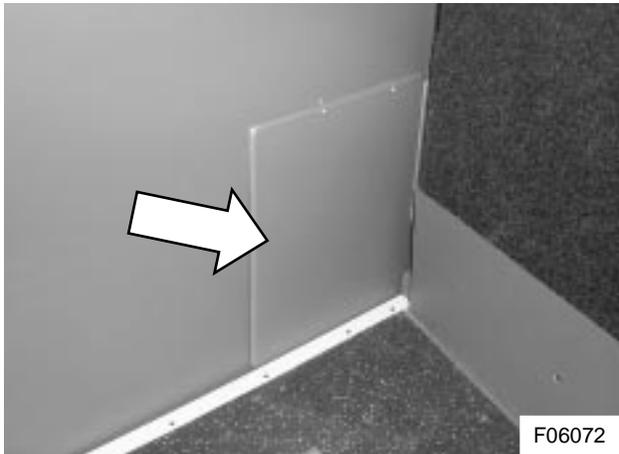

Figure 9: Door lock linkage cover panel
- 3) Undo and remove the screws securing the ABS panel covering the door lock linkage (see Figure 9). Remove and discard the panel.